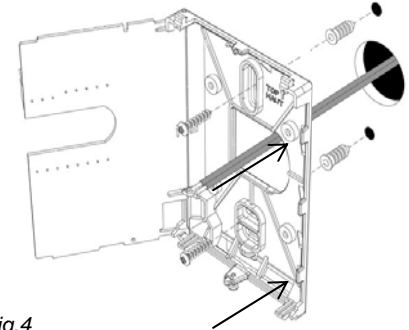

Fig.4
- 1- Swing open the thermostat PCB to the left by pressing and applying pressure to the PCB locking tabs. **(Fig. 4)**
- 7- Insert screws in mounting holes on each side of the base. **(Fig. 4)**